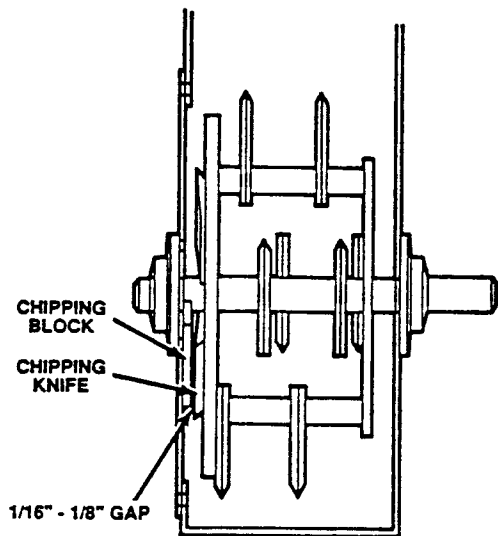

FIG. 3
- B. Tap end of rotor shaft with rubber mallet until clearance between knife and chipping block is 1/16" to 1/8" for each knife (Fig. 3 on page 11).